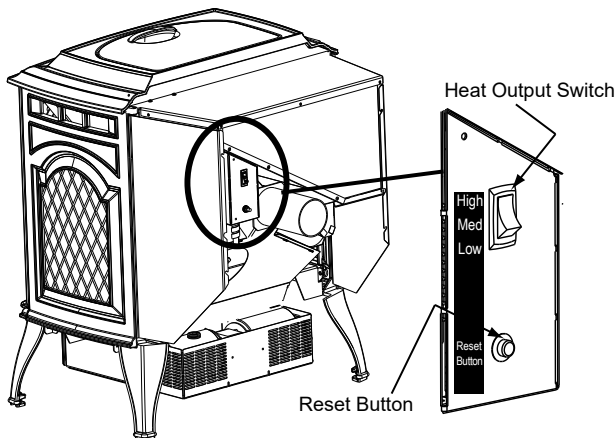
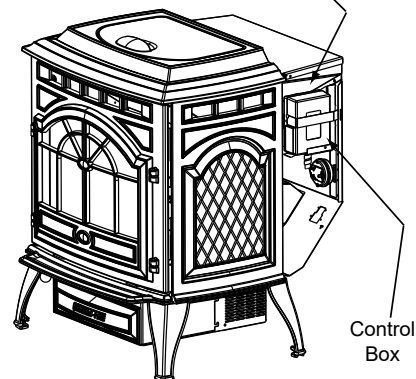

Figure 10.1
Figure 10.2
This appliance is equipped with a heat output control switch that has three settings or burn rates; low, medium and high. The appliance will turn on and off as the thermostat demands. When the thermostat calls for heat, the appliance will start up at the burn rate for which it is set. If the appliance is set at one of the lower settings, it will run quieter but take longer to heat up an area than if it were set at a higher burn rate. Regardless of the burn rate, when the area is warm enough to satisfy the thermostat, the appliance will shut off (**Figure 10.1**).
3. Locate the heat output control switch mounted on the back of the appliance in the upper right corner (**Figure 10.2**). Turn it to the "high" setting by pushing the top of the control switch in and then adjust the thermostat to its highest setting. Remove the right side panel and the red call light located to the left of the control box will be on (**Figure 10.2**). This indicates the thermostat is calling for heat.
3. Occasionally the appliance may run out of fuel and shut itself down. When this happens, the red call light will be on (**Figure 10.2 on page 10**). To restart it, fill the hopper and press the reset button (**Figure 10.1, page 10**). When you press the reset button the red call light will go out. Release the button and the light will come back on. You should see a fire shortly. If not, follow **Starting Your First Fire on page 10**.